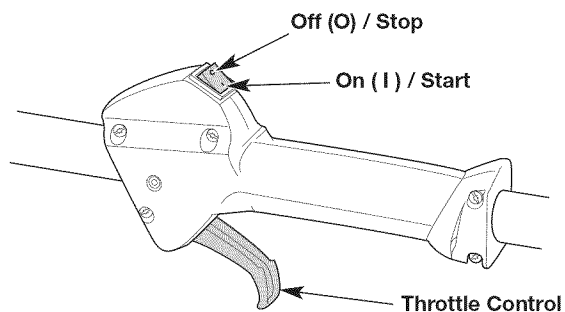
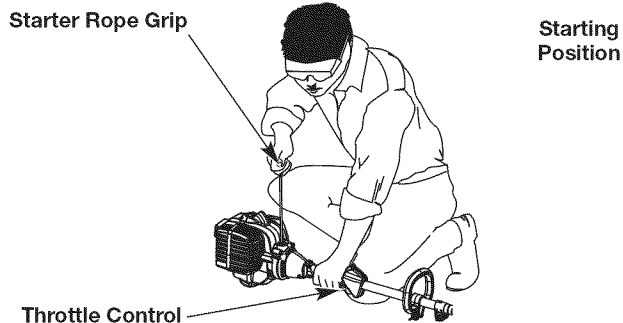

Fig. 8
Fig. 10
WARNING: Avoid accidentally starting the unit. To avoid serious injury, the operator and the unit must be in a stable position when pulling the starter rope (Fig. 10).
NOTE: There is no need to turn the unit on. The On/Off switch is in the ON (I) position at all times (Fig. 8).
4. Crouch in the starting position (Fig. 10).
5. **DO NOT** squeeze the throttle control (Fig. 8). Pull the starter rope with a controlled and steady motion until the unit starts (Fig. 10).
2. Press and hold the On/Off switch in the OFF (O) position until the engine comes to a complete stop (Fig. 8).
6. **DO NOT** squeeze the throttle control (Fig. 8). Run the Speed Start™ accessory in intervals no longer than 2 seconds each until the unit starts.